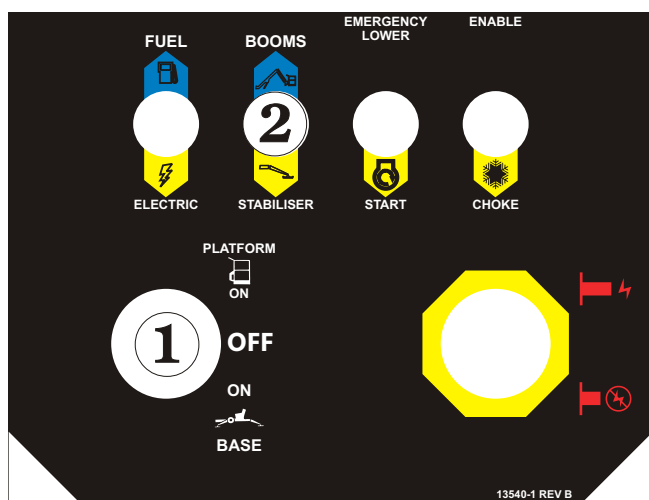

Figure 10.19 - Ground Switch Settings
1. Insert the key **1** into the **Platform / Ground Selector Switch** at the ground control box and select platform (see Figure 10.19).
2. Set the **Booms/Stabiliser Selector** **2** to Booms (see Figure 10.19).